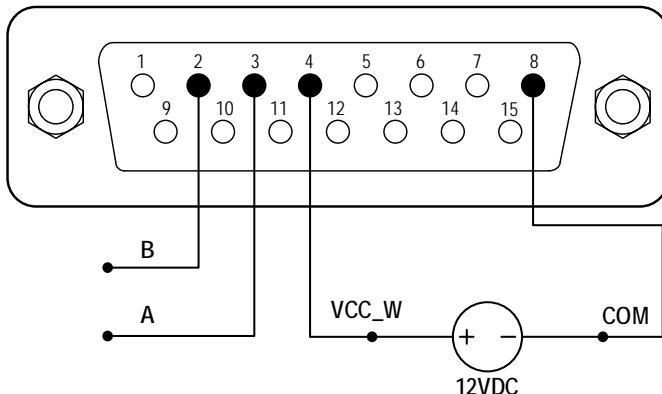

Figure 21. RS485 MODBUS Wiring
- When the power is off, wire the DB15 connector as shown on *Figure 21*, and connect it to the DB15 port on the rear of the pump. External DC power source is recommended to avoid electrical interference.